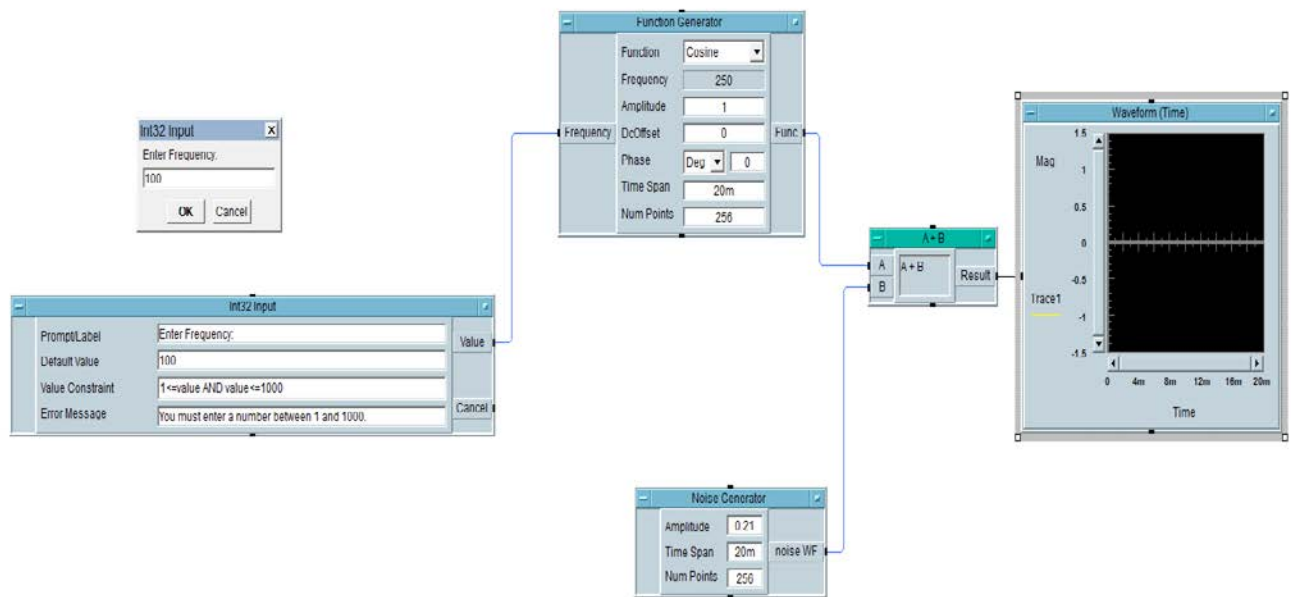

Fig. 15. The appearance of the work area after the program executes
- Connect the data output pin labeled as **Value** to the **Frequency** pin of Function Generator. A window will appear as you run the program as in Fig. 15. Enter the desired frequency into the opened window and click **OK**.